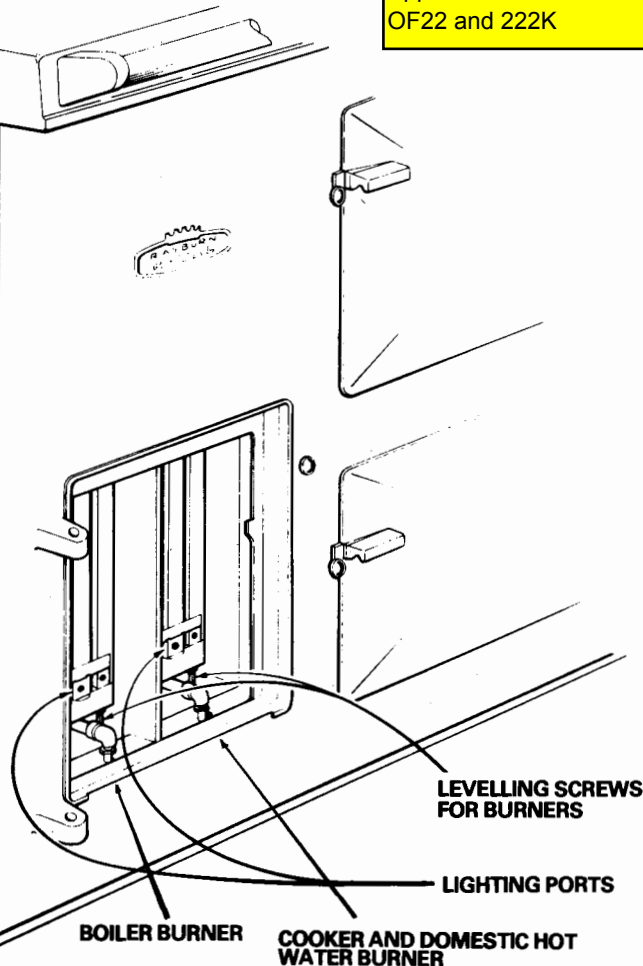

Fig.1 Oil Control Valve with cover removed
Summer Use See Fig. 1.
1. Remove the oil control valve cover, then depress the trip lever **D** – (See Fig.1) – on the front of the oil control valve and turn the cooker oil control valve knob **A** to No. 6 setting.